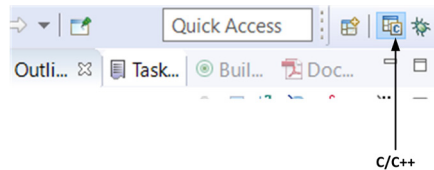

Figure 3.11 Click C/C++
- To return to normal programming mode, click the button **C/C++** on the top right corner of the screen (Figure 3.11)